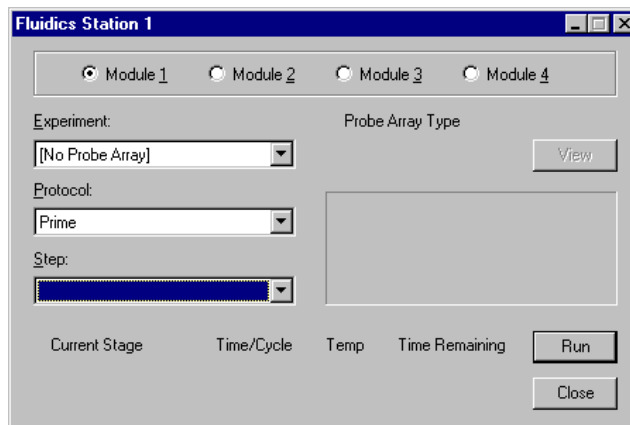

Figure 4.7 Fluidics Station dialog box, Prime protocol selected, disk files mode.
- ⇒ The Fluidics Station dialog box opens if only one fluidics station is installed on the workstation (Figure 4.7).
- ⇒ The Fluidics Station dialog box for the currently selected station automatically opens (Figure 4.7).